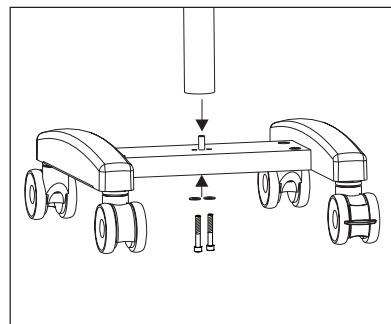

Fig. 2
- 7.3 Put the pillar on the base and align it with the pillar guide pin (A). After aligning the screw holes with the guiding holes on base, fix the screws removed in Fig 2 using allen wrench 8mm. Fig.2 and 3.